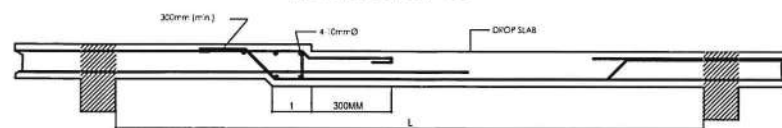

FIG. 2. TYPICAL DETAIL OF DROP SLAB
- WHENEVER REQUIRED, DROP SLAB SHALL BE ADDITIONALLY REINFORCED AS SHOWN IN FIGURE 2.